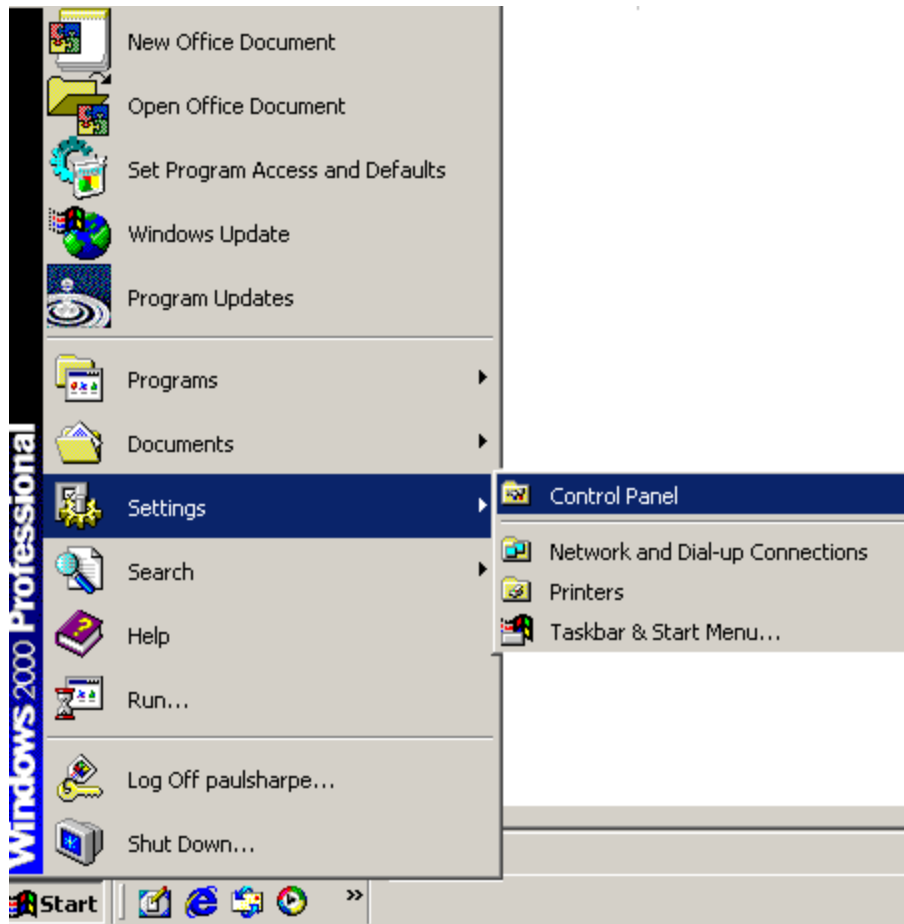

Figure 7-13: Access Windows Control Panel
Step 1: Open **Windows Control Panel** (Figure 7-13).